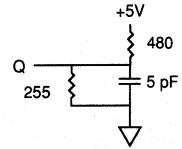

Fig. 2 OUTPUT LOAD EQUIVALENT
- t^{HZCE}, t^{HZWE} and t^{HZOE} are specified with CL = 5pF as in Fig. 2. Transition is measured ± 500mV from steady state voltage.